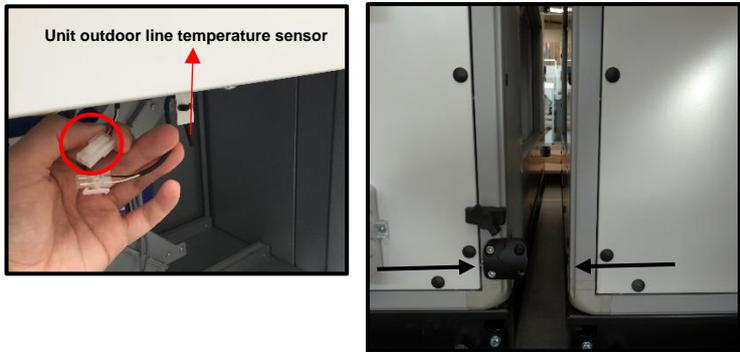

Fig. 72
2. Remove the temperature sensor from the unit outdoor line. Bring the module and device closer together and tighten the bolt. (Fig. 72)